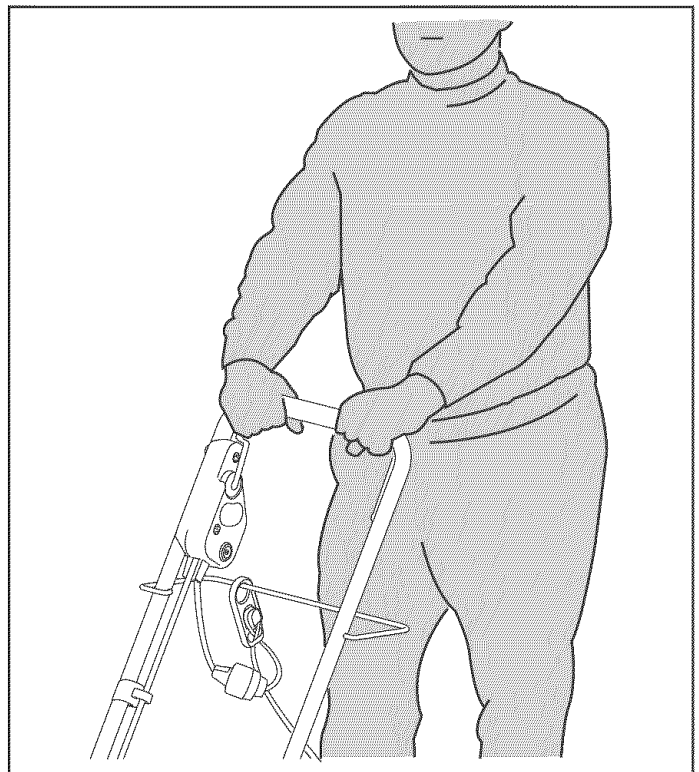

Fig. 7
6. Release the (red) starter button and grasp the handle and bail together with **both** hands (Fig. 7).